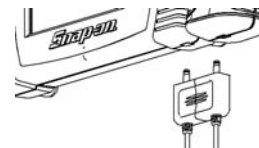

Figure 3: Charging the BK8000
1. Nest the Viewer Unit and Imager Handle together and insert the power supply cable as shown (Figure 3):